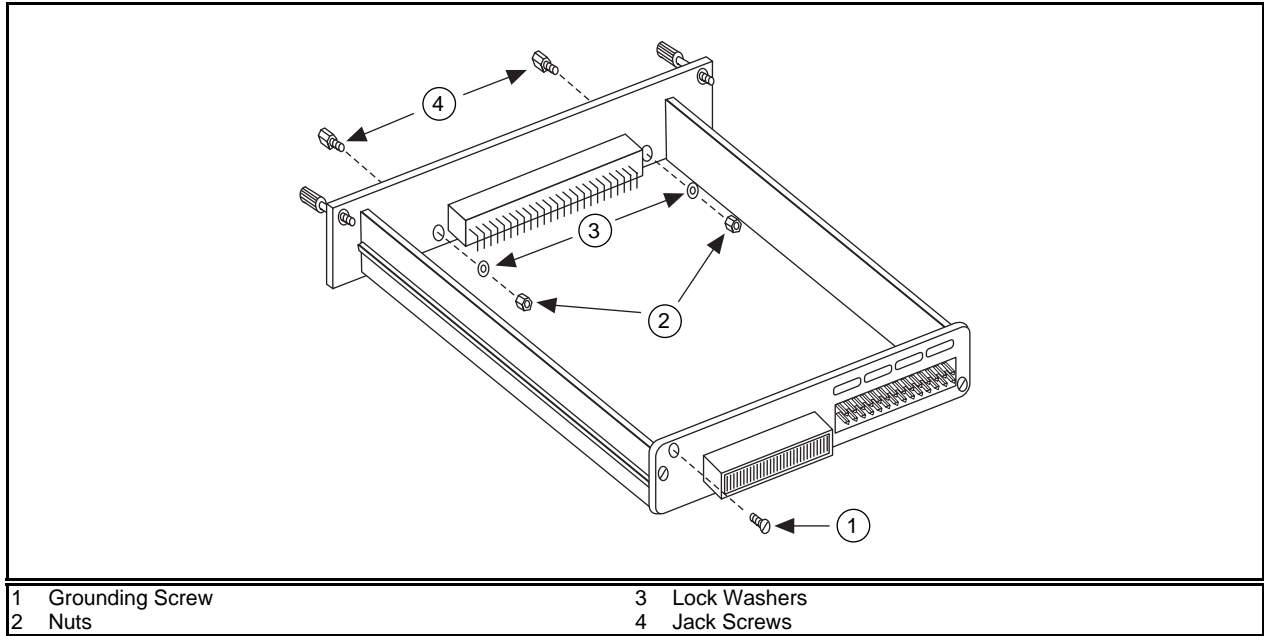

Figure 2. Preparing the SCXI Module for the Cable Assembly
5. Place one jack screw in the SCXI module as shown in Figure 2.